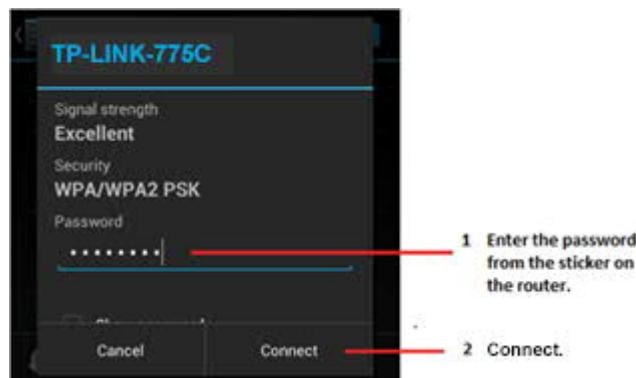

Figure 59: Password Connection Screen
5. Select Connect. (Figure 59)